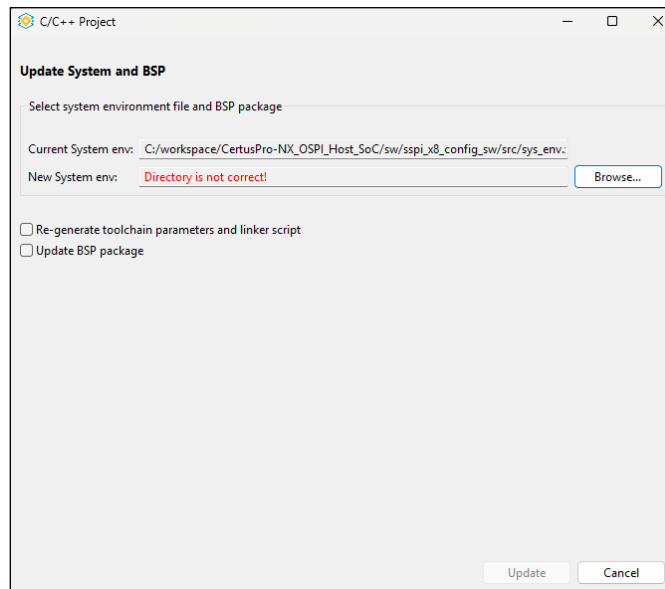

Figure 8.2. New System Error
1. In Propel SDK, right-click on the software project that you are working on and select **Update Lattice C/C++ Project**. In the Update System and BSP dialog box, you might observe a *Directory is not correct!* error as shown in Figure 8.2. This occurs when the software project is created in another PC with a different system environment path when the project is imported to SDK. If so, proceed to Step 2. Otherwise, skip to Step 3.